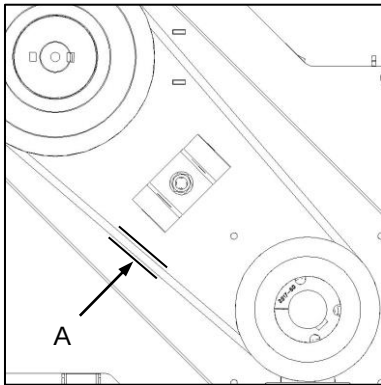

Fig. 10
- ➔ Drive belt tension should be checked at the mid-point between pulley centres (Fig. 10-A). A deflection of ± 20 mm should be evident when single-finger pressure is applied to a single belt.
- ➔ Dryfbandspanning moet halfpad tussen die katrol-sentrums gekontroleer word (Fig. 10-A). Speling van ± 20 mm behoort met eenvingerdruk op 'n enkele band sigbaar te wees.